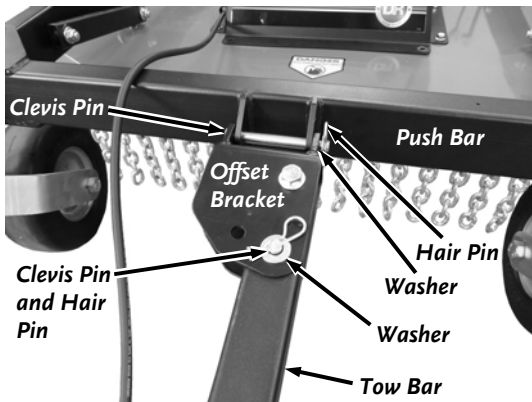

Figure 32
3. Turn the Tow Bar over to position the Offset Bracket for left side offset and reinstall it to the Push Bar with the Hair Pin, Washer and Clevis Pin (**Figure 32**).